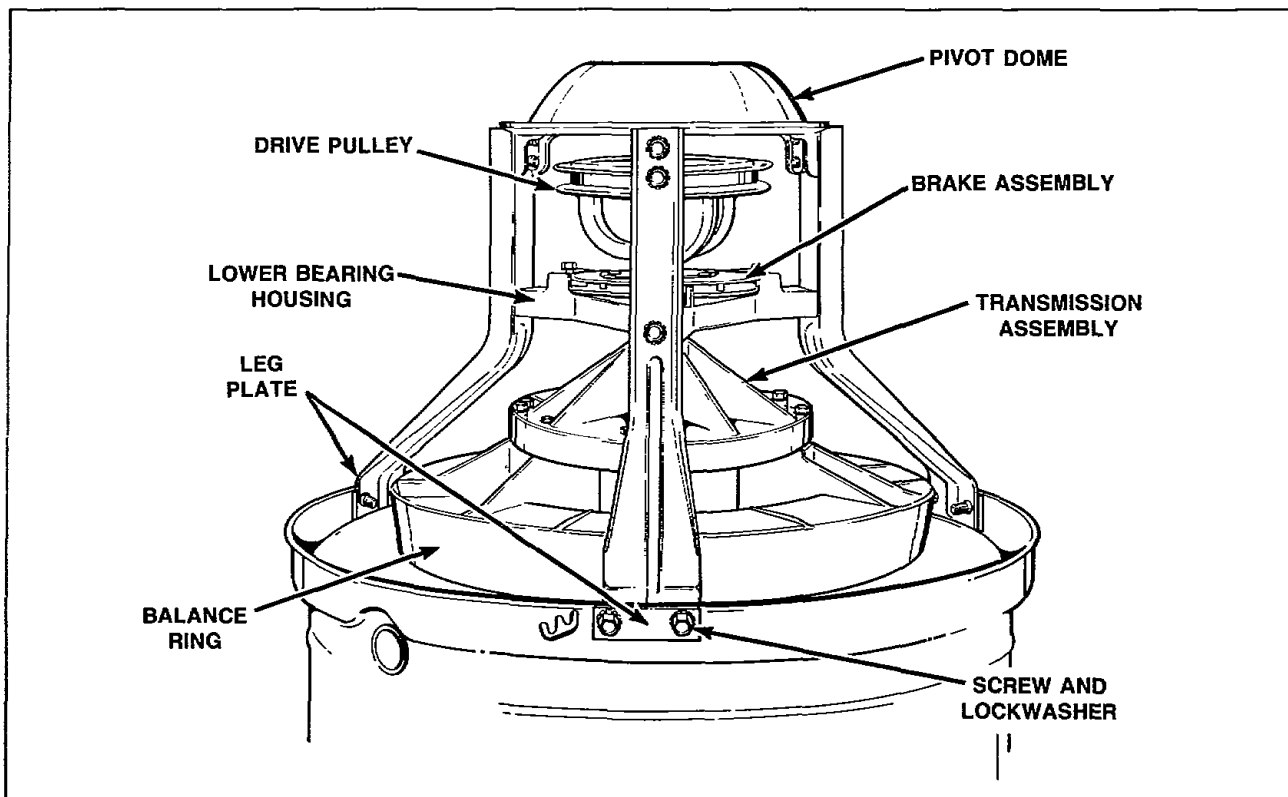

Figure 45
- s. Remove screws and lockwashers holding each support leg to outer tub, *Figure 45*. Then lift transmission, balance ring and pivot dome off tub.